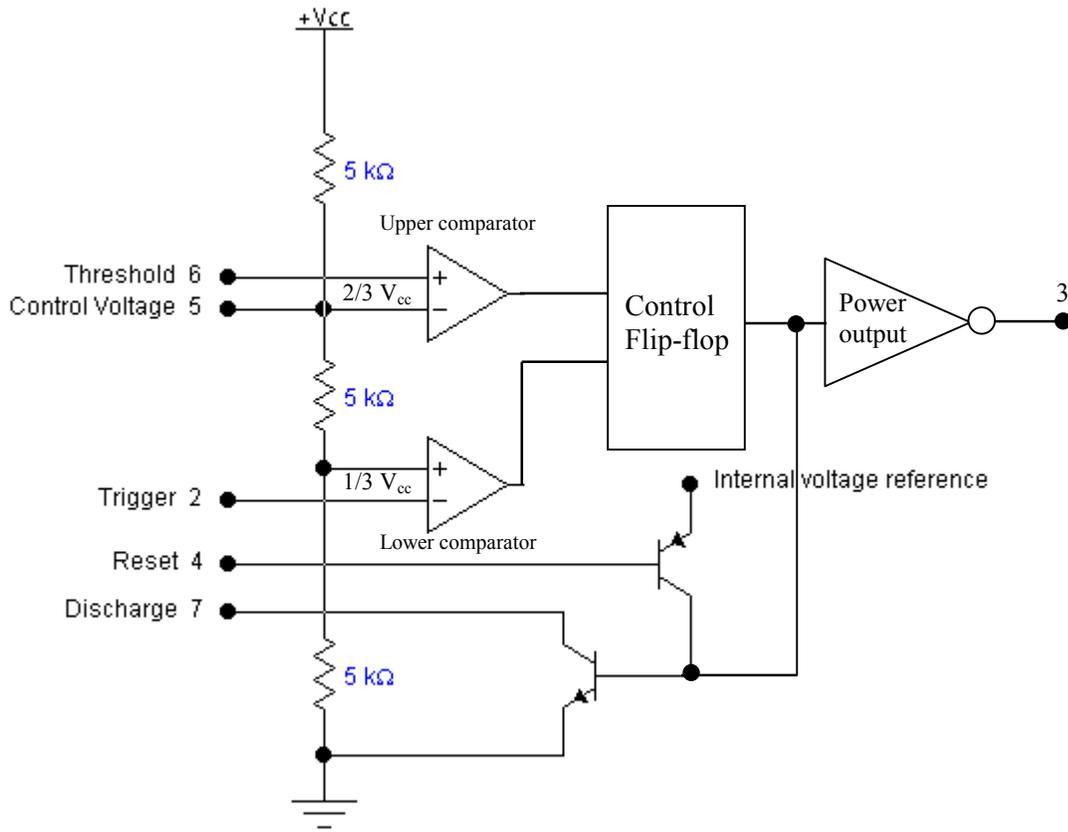

Fig. 2 555 timer equivalent circuit
In this mode the charging and discharging times of the capacitor generally are different depending on whether the transistor in Fig.2 is turned on or off.
6) There exist many circuits that permit control over the timer's output frequency or, conversely to make the frequency independent so that the duty cycle can be easily varied over a wide range while keeping the output pulse rate constant. Wire the following circuit and verify that the duty cycle can range from about 0.01% to 99.99% with little change in frequency. (You can substitute a 1 M $\Omega$  pot for the 10 M $\Omega$  pot shown in the diagram but realize that there will be a corresponding factor of 10 decrease in the duty cycle range.) Refer to Fig. 2 and explain how this circuit works and the role played by the diodes.